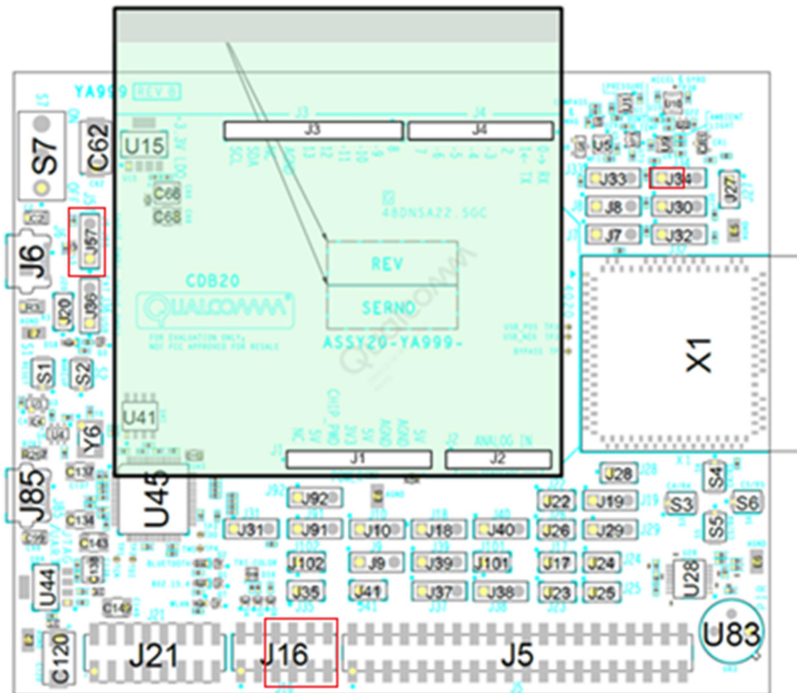

Figure 6 ASV1108 Connection view
- 4 Make connections to the ASV1108 board as shown in Figure 6 below. When FW Updating or RF testing, connect a Micro-USB cable between computer and WL501 board Micro-USB Port J6, other tests connect a Micro-USB cable to WL501 board Micro-USB Port J85.